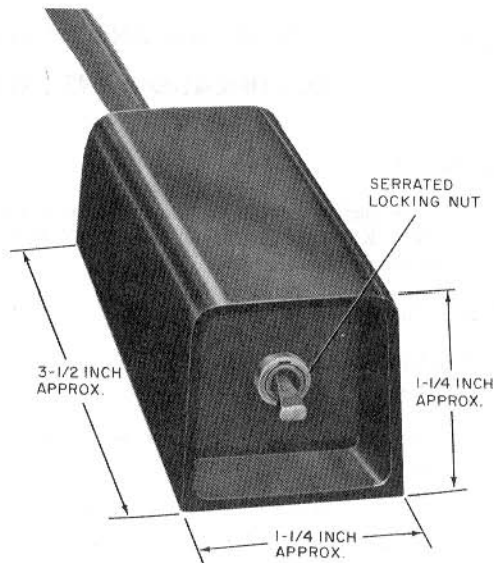

Fig. 3—KS-21254 Type Key (MD)
2.05 **KS-21254 Type Key (MD) (Fig. 3, 4, 5, or 6).**
- Consists of a toggle switch (two or four pole), flexible wiring strip with 6 or 12 screw terminals for making electrical connections, and molded plastic cover held to base by serrated locking or hex nut at front (Fig. 3) and snap fit at the rear. Cover has a simplified schematic molded inside.
* Contacts must be wired to terminal as required. See Fig. 3.